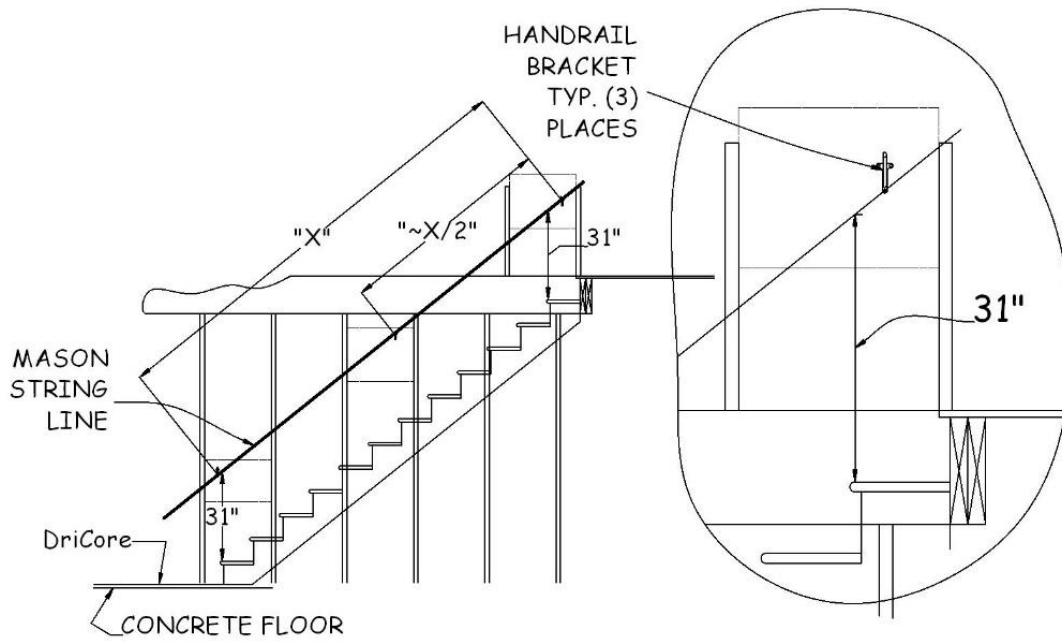

Figure 16-2. Handrail Bracket Installation.
5. Along this line, first mark the wall for locations of the top and bottom handrail brackets. The top bracket should be 10-12" from the top end of the stairway wall and the bottom end should be 10-12" from the bottom end of the stairway wall, or from door trim if present. Make a third mark halfway between. See Figure 16-2.
12. Set the skirtboard on saw horses with the unfinished side up (any tear out from the circular saw will then be on the unfinished side). Lay the template on the board and orient it to establish the proper cut orientation at the top of the skirtboard. If the top angle of the template is correct, use it to mark for cutting. If not, use the adjustable bevel angle established above. This will establish Point 1 (see Figure 16-2).